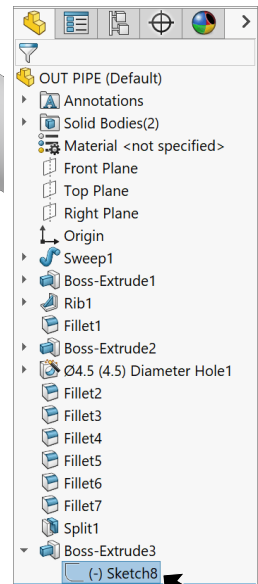

Fig. 70
Step 1. **Select Sketch8** . To select, expand **Boss-Extrude3** in the Feature Manager, click **Sketch8** , **Fig. 70**.